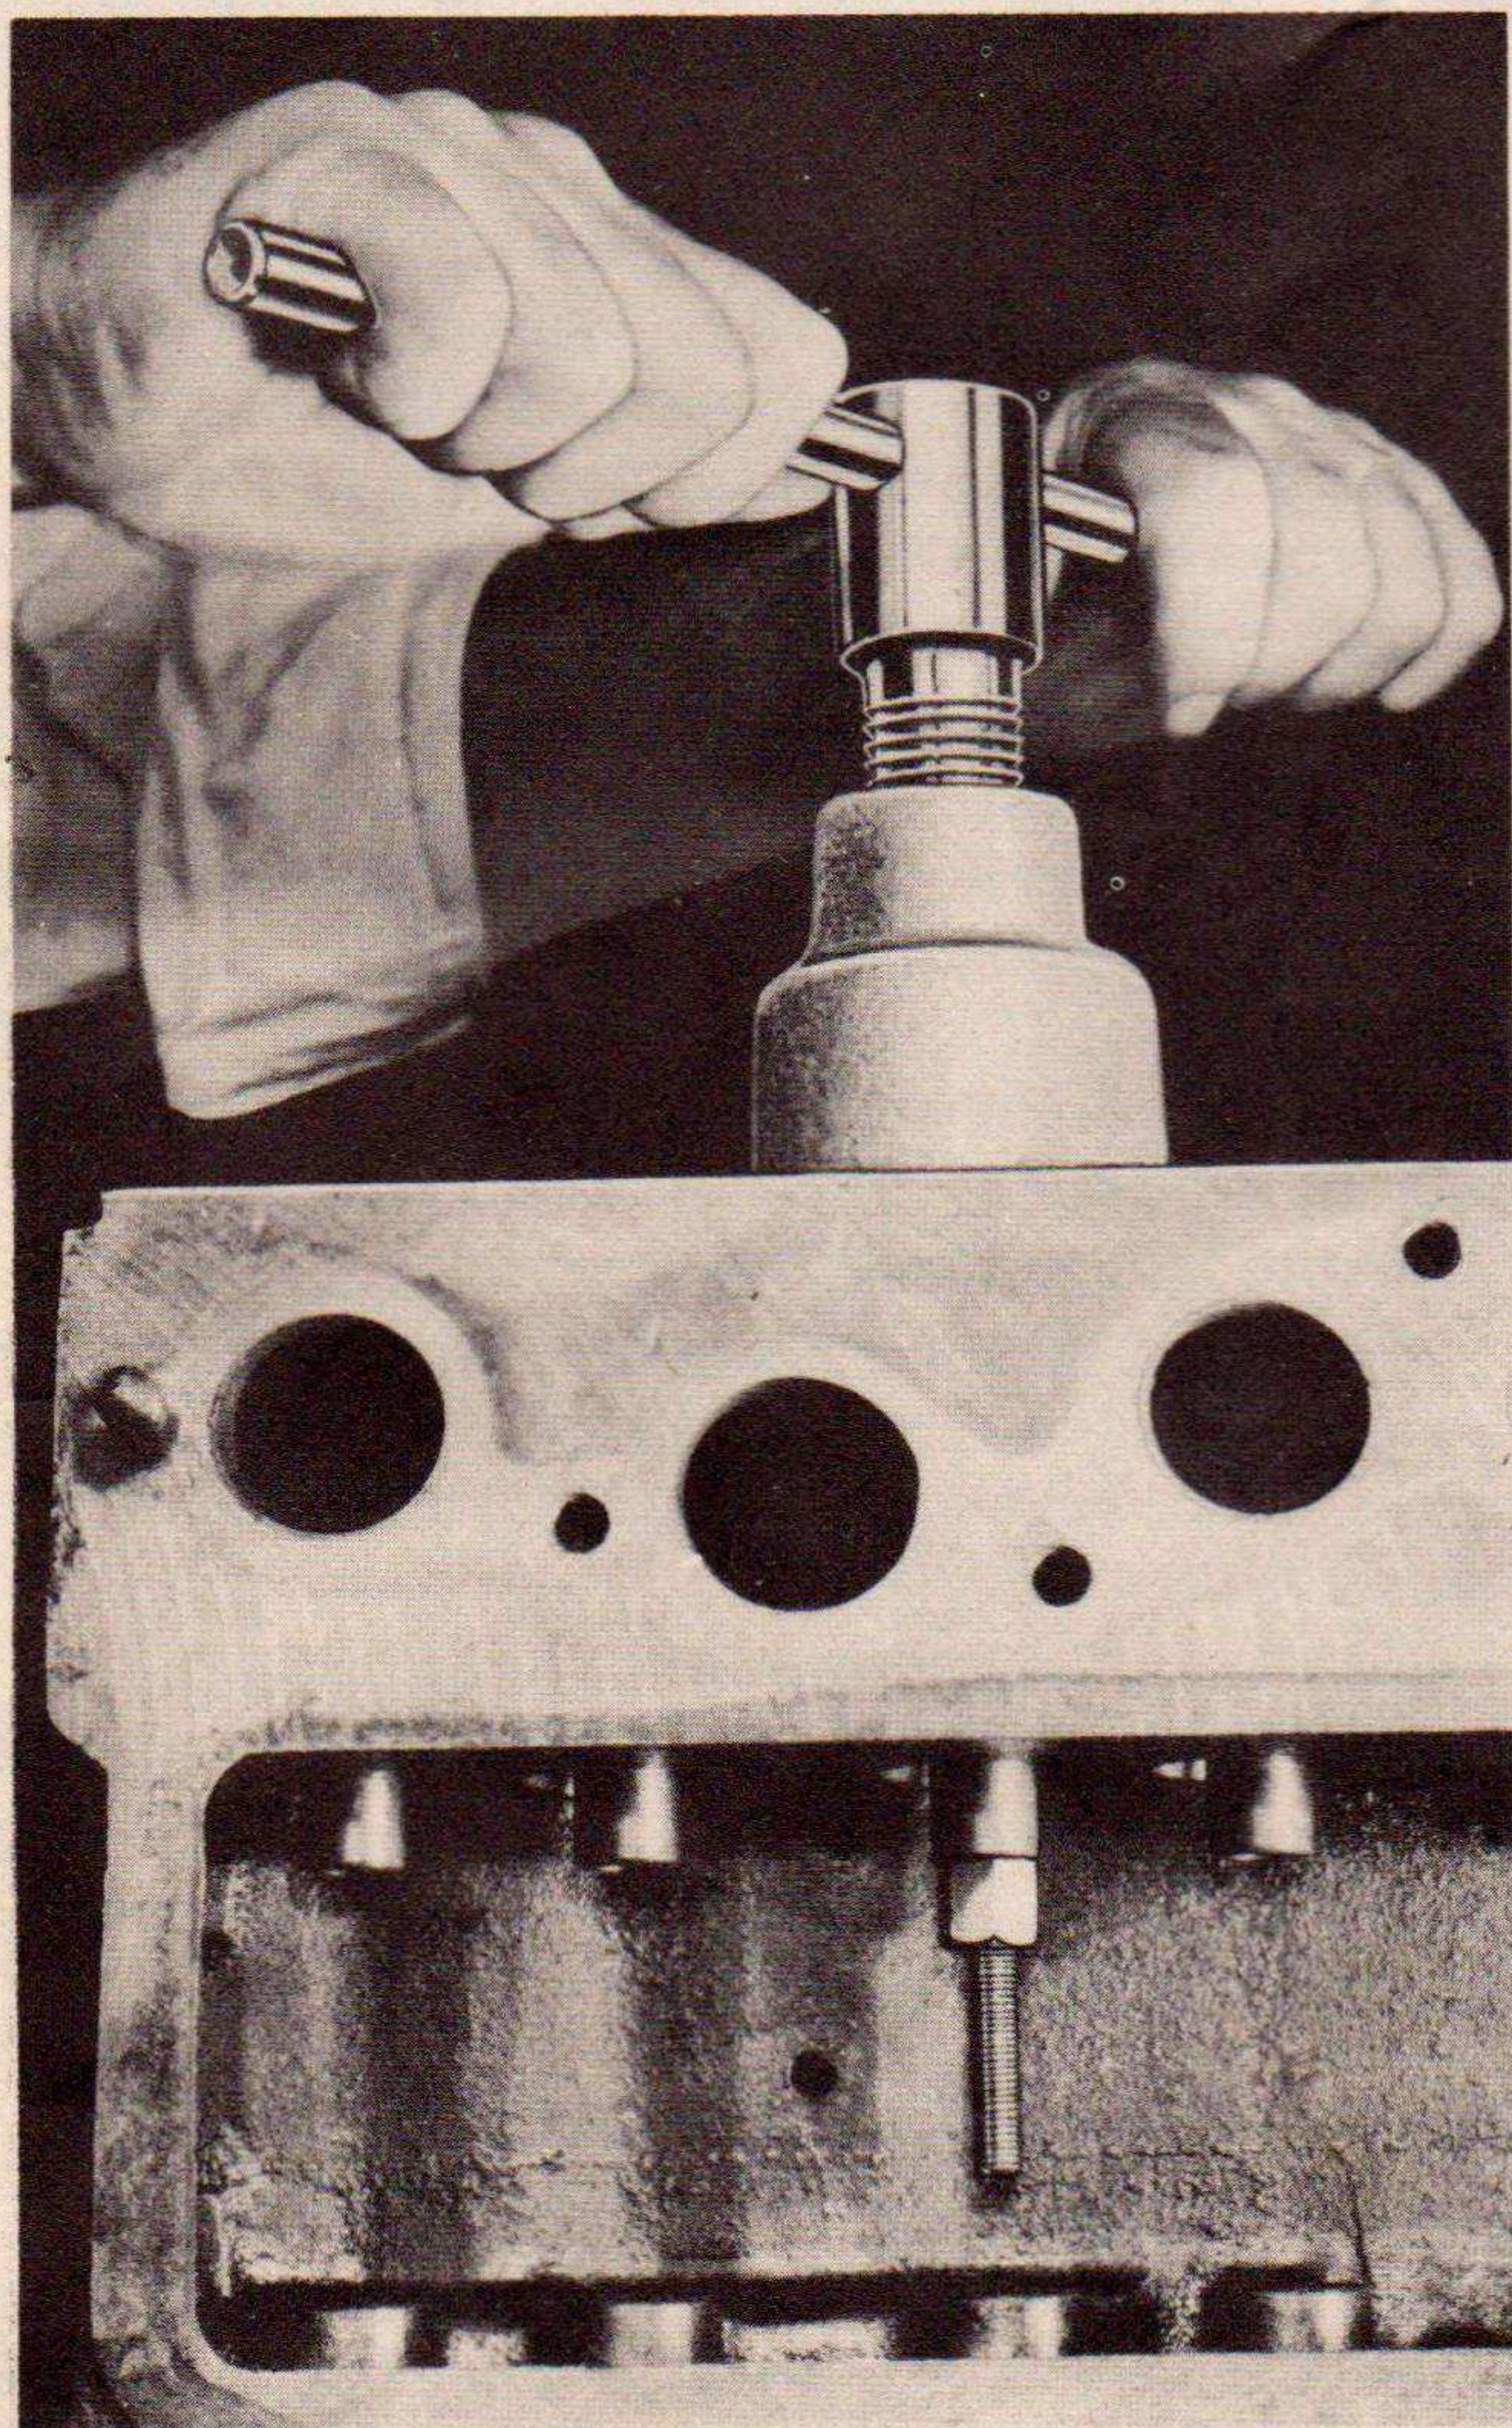

FIG. 19 REMOVING VALVE GUIDES
(1) When removing the valve guides use a valve guide puller to prevent damage to cylinder block. See (Fig. 19). If a regular puller is not available, a suitable tool can be made from a 2" pipe, 6" long and a 3/8" bolt 10" to 12" long with a long threaded end, a small hexagon nut which will pass through the hole in the cylinder block and a 2" washer with a 3/8" hole in it.